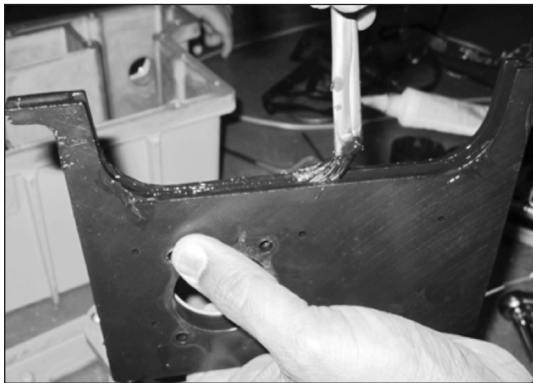

Figure 16.12 Example - Apply grease to gasket
3. Replace the main gasket with a new gasket (P/N 060133-000). Apply grease to the inside of the main gasket and then place the gasket on the rib next to the cartridge. Place the aluminum washer plate against the gasket as shown in the Figure 16.12 Example. Using a 1/8" Allen wrench, tighten the #10-24 X1" screws to 10-12 in. lbs torque.